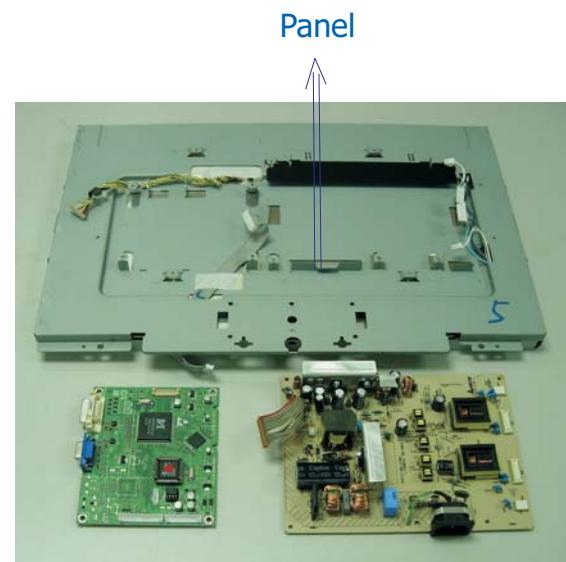

Fig.14
- Remove the matel frame board as shown in Fig.14